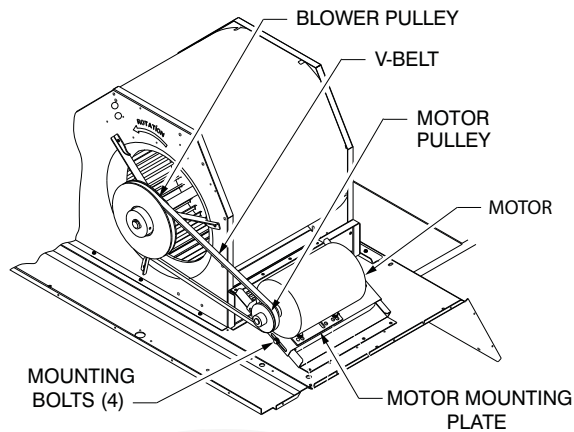

Fig. 8 – Typical Belt Drive Motor Mounting
the fan shaft and an adjustable-pitch driver pulley is on the motor. The pulleys are connected using a V-belt. See Fig. 8.
Use the following steps to replace the V-belt. See Fig. 8.
2. Loosen belt by loosening fan motor mounting nuts. See Fig. 8.